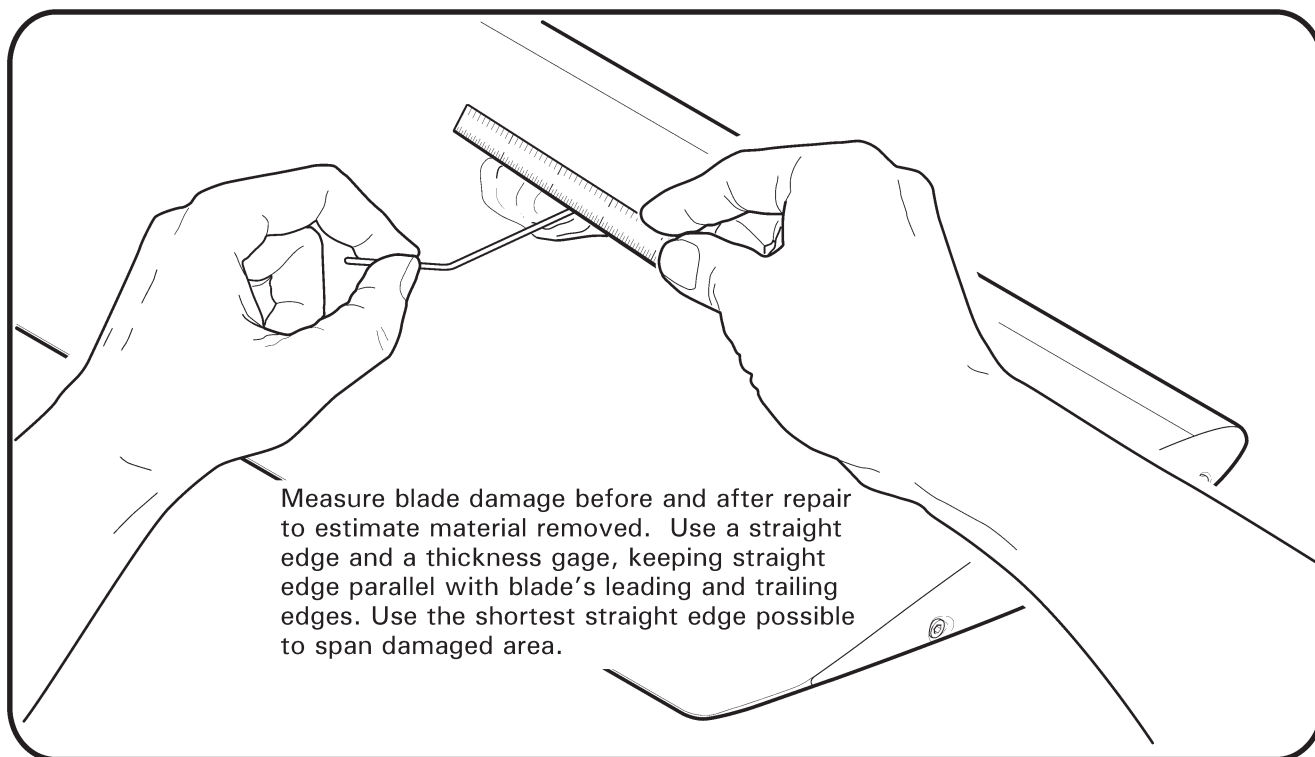

FIGURE 26-10 MEASURING MAIN ROTOR BLADE DAMAGE
1. Refer to Figure 26-10. Measure blade damage using a straight edge and a thickness gage. Keep straight edge parallel with the leading and trailing edges.